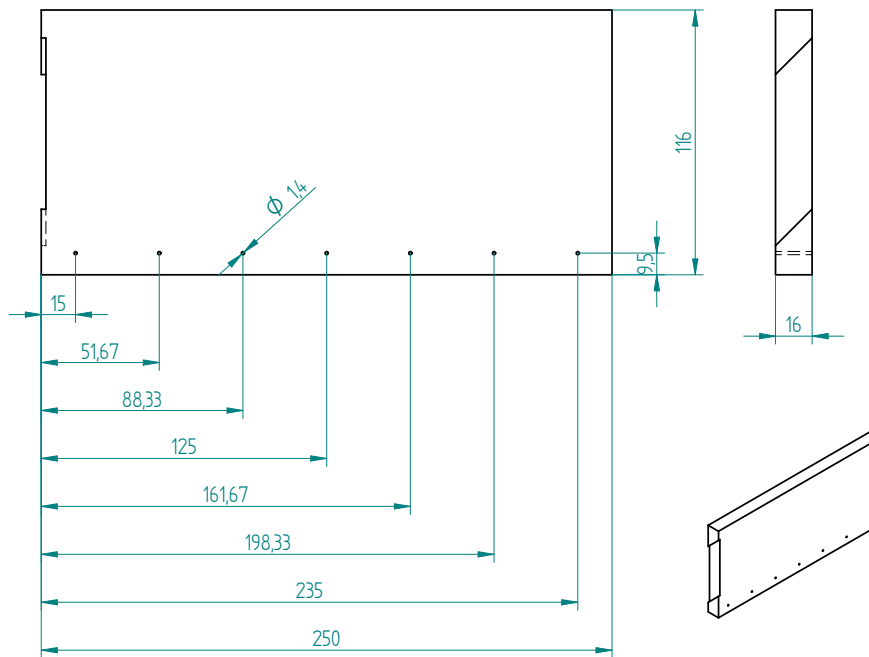

Figure 3.7: Shaped part : **face-2** for **perpendicular** tool
2. drill the holes for dimension of the hole and positions see figure 3.7, page 87.
**Drawing** See figure 3.7, page 87